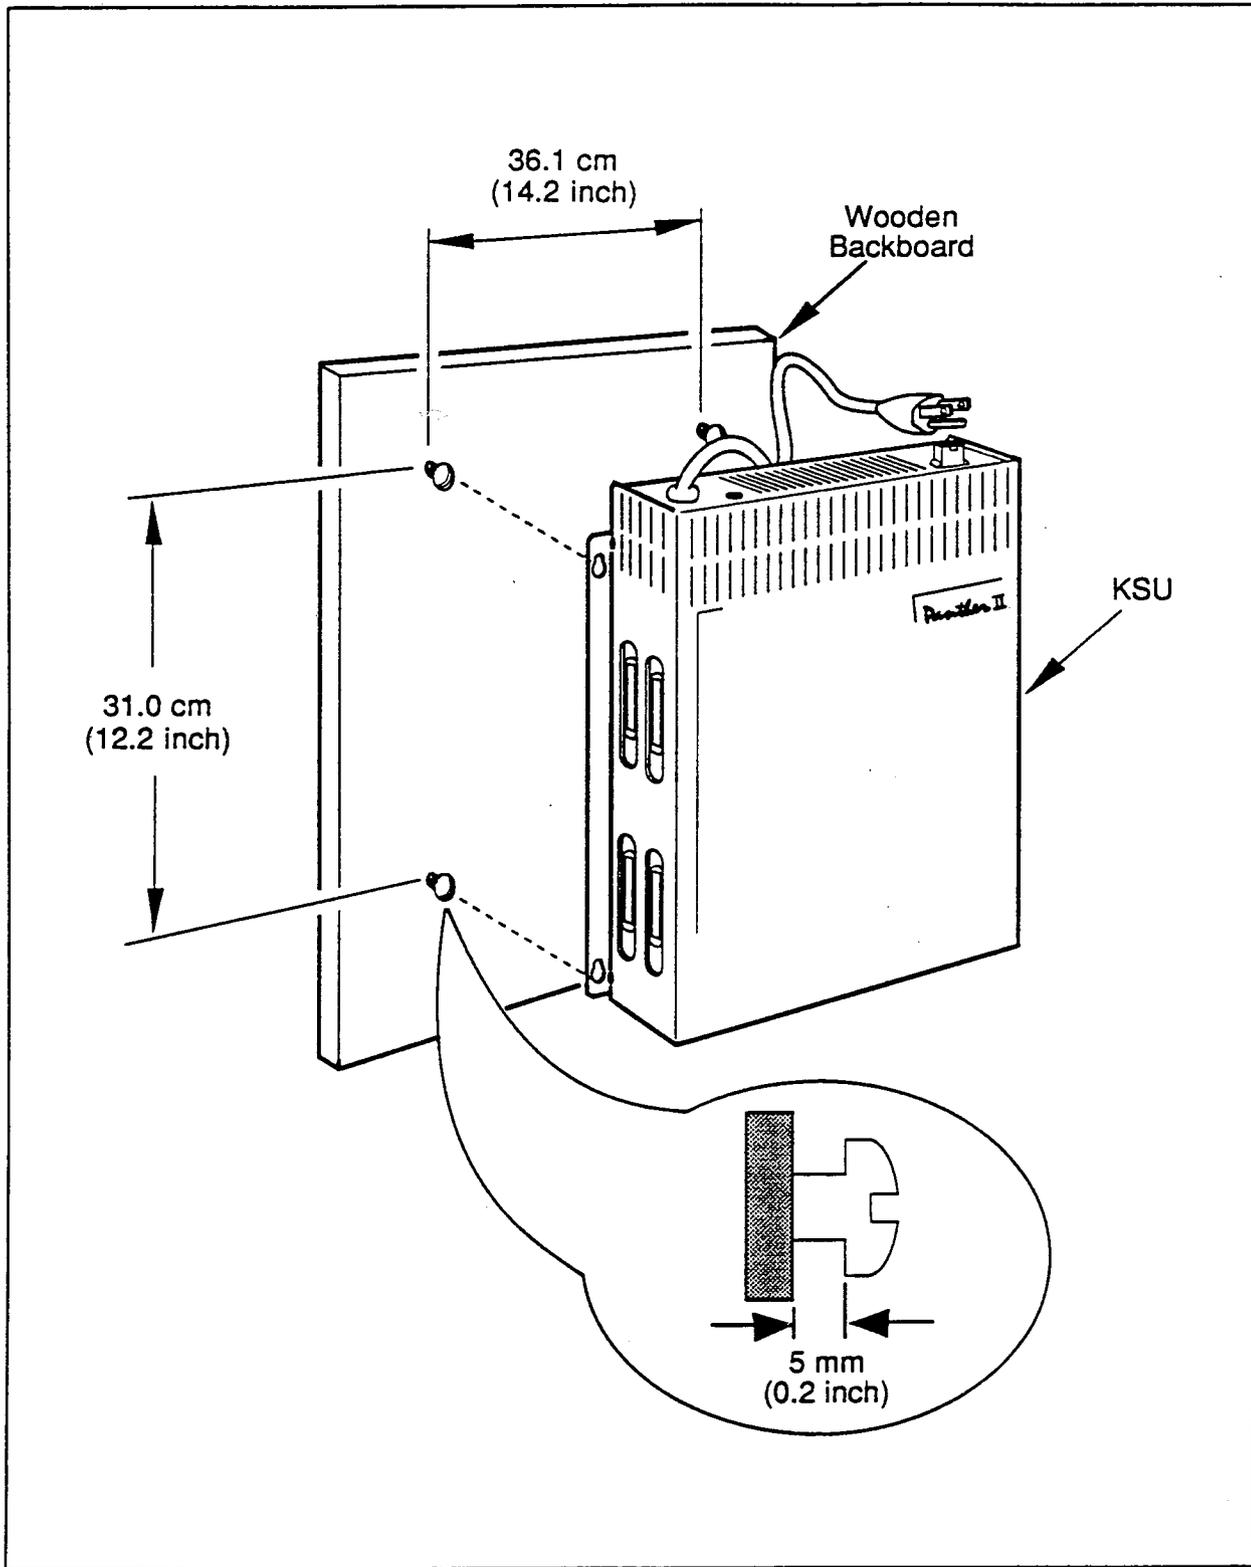

Figure 6-2 KSU Wall Mounting
6.04 The following instructions detail the installation of the KSU. The installation procedure is similar for any ancillary devices included in the system, only the location of the mounting screws may differ. This can be seen in Figures 6-2 to 6-6.